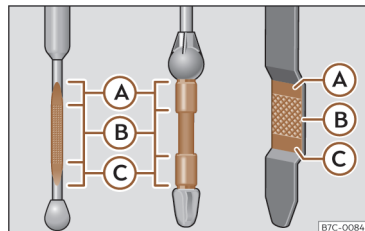

Fig. 199 Engine oil dipstick.
Key to the >>> **Fig. 199**:
- Then pull it out again and check the oil level >>> **Fig. 199**. Top up with engine oil if necessary.
- When the oil level reaches at least zone >>> **Fig. 199 (B)**, carefully screw on the engine oil filler cap >>> .